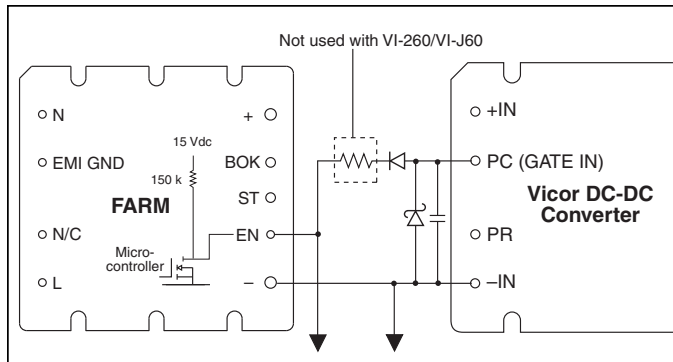

Figure 10 — Enable (EN) function
Enable (EN) Pin. (see Fig. 10) The Enable pin must be connected to the PC or Gate-In pin of all converter modules to disable the converters during power up. Otherwise, the